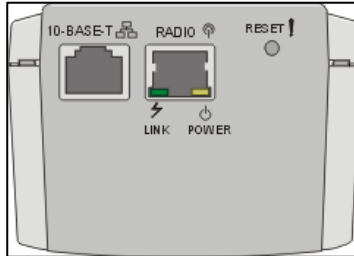

Figure 8: Indoor Unit Top Panel
3. Connect the Indoor-to-Outdoor cable to the Radio connector, located on the top panel of the indoor unit shown in Figure 8 on page 14. The Indoor-to-Outdoor cable should be connected to the unit before the unit is connected to the mains power.
To verify proper operation, check the LED indicators located on the top panel of the indoor unit as shown in Figure 8 on page 14, and as described in Table 1.